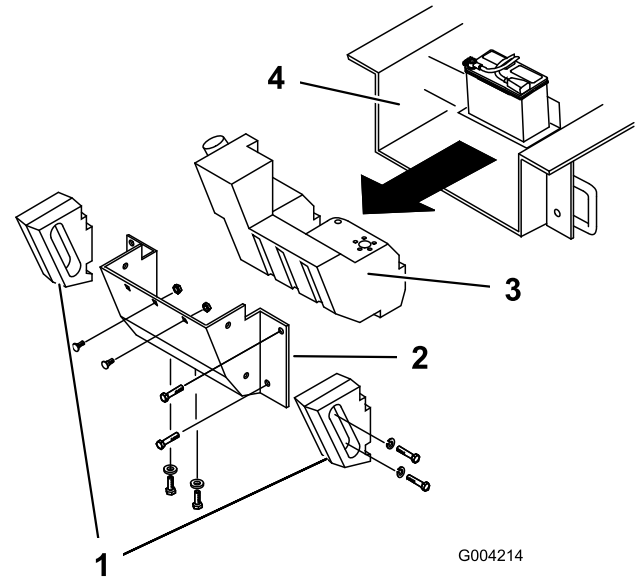

Figure 58
Over time, the chassis under the engine collects dirt and debris that must be removed. Using a flashlight, open the hood and inspect the area under the engine on a regular basis. When the debris is 1 to 2 inches deep, complete the following procedure (refer to Figure 58 throughout this procedure):
4. Remove the bolts, washers, and lock washers securing the two side weights, removing the weights (Figure 58).
7. Remove the six nuts and bolts securing the rear panel, removing the panel (Figure 58).
9. Slide the fuel tank to the rear (Figure 58).
16. Slide the fuel tank part way into the chassis (Figure 58).
22. Replace the rear panel and secure it with the six bolts and nuts removed previously (Figure 58).
24. Install the side weights with the bolts, washers, and lock washers removed previously (Figure 58).